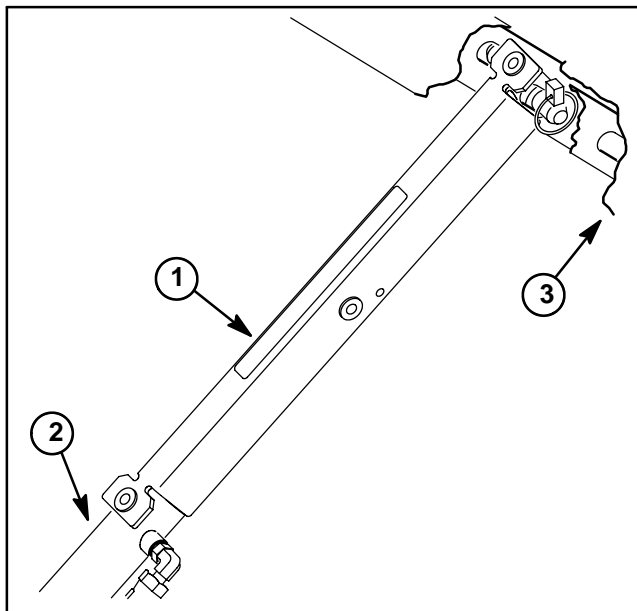

Figure 3
3. Push bed safety support onto cylinder rod, making sure support end tabs rest on end of cylinder barrel and on cylinder rod end (Fig. 3).